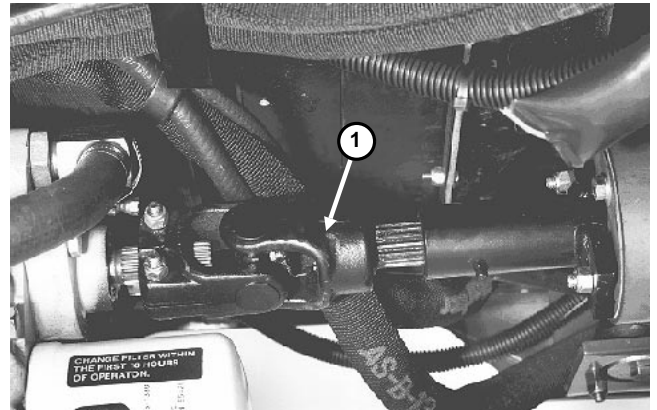

Figure 6
1. Loosen and remove capscrews securing drive shaft to engine drive coupler. Loosen capscrews clamping drive shaft to transmission (Fig. 6). Remove drive shaft.
5. When towing is completed, install drive shaft as shown in Figure 6. The splines are designed to allow assembly only when the two halves of the shaft are properly oriented.